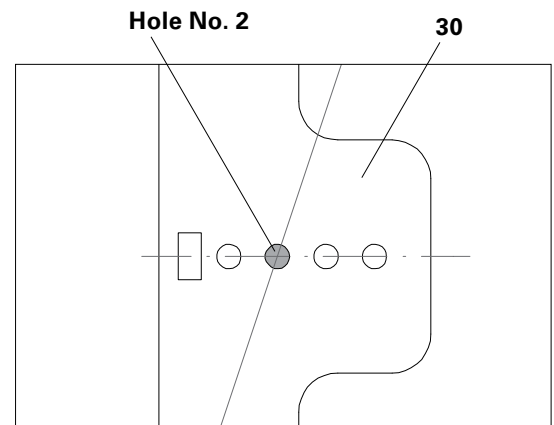
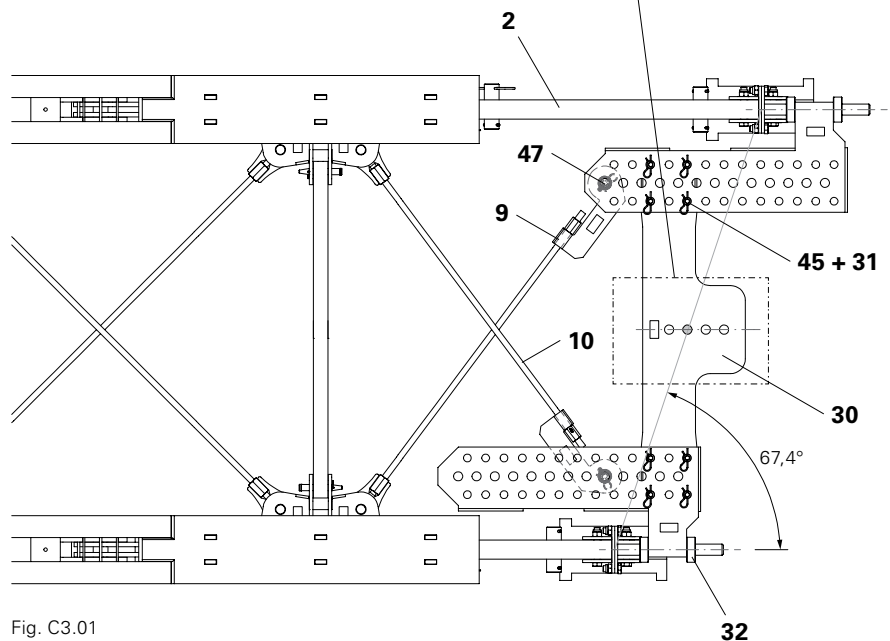

Fig. C3.01a
Fig. C3.01
- Fig. C3.01 and C3.02 serve as examples.
1. Extend the Bearing Frame (2). (Fig. C3.01)
2. Mount the Bracing Traverse (30).
3. Adjust the Bracing Traverse with the help of the bracing spindles (32). One of the four holes must be centered on the connecting line of the two bracing spindles. Here in the example: Hole No. 2 (Fig. C3.01a)
4. Mount the Articulated Spanner (9). For this, insert the bolts (47) into the first possible hole and secure with a cotter pin.
5. Adjust the tie rod (10) so that it is free of any play.
- ⇒ The four fitting pins (47) must be mounted in the four outer holes of the telescopic arm guide (2.5).
- ⇒ Also when fully extended, all four fitting pins (47) must be securely mounted. See "Adjusting the Bearing Frame" on Page 21.
- ⇒ The telescopic arm (2.4) must always be fixed with all four fitting pins (47).
- ⇒ The Bracing Traverse (30) must always be mounted with all bolts (45) on the Bracing Frame connection (31).